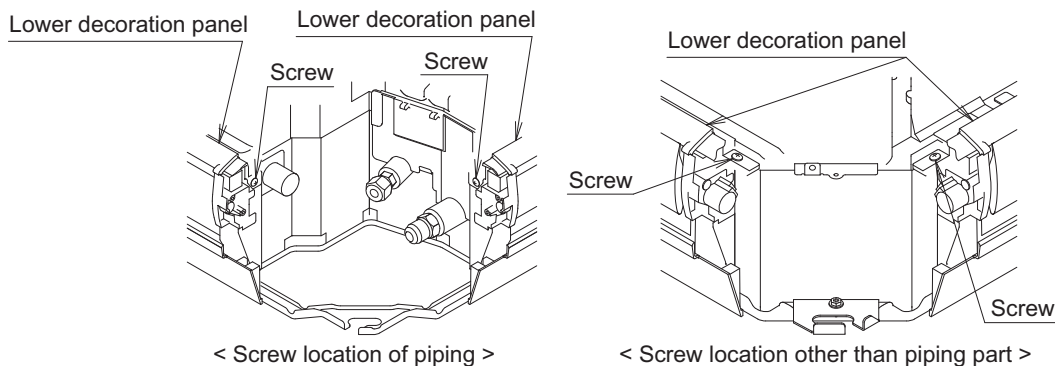

Fig.14
- * If the blocking material is difficult to insert, loosen the left and right screws of the lower decoration panel and insert it. Make sure to tighten the loosened screws again after the blocking material is fixed. (**Refer to Fig. 14**)